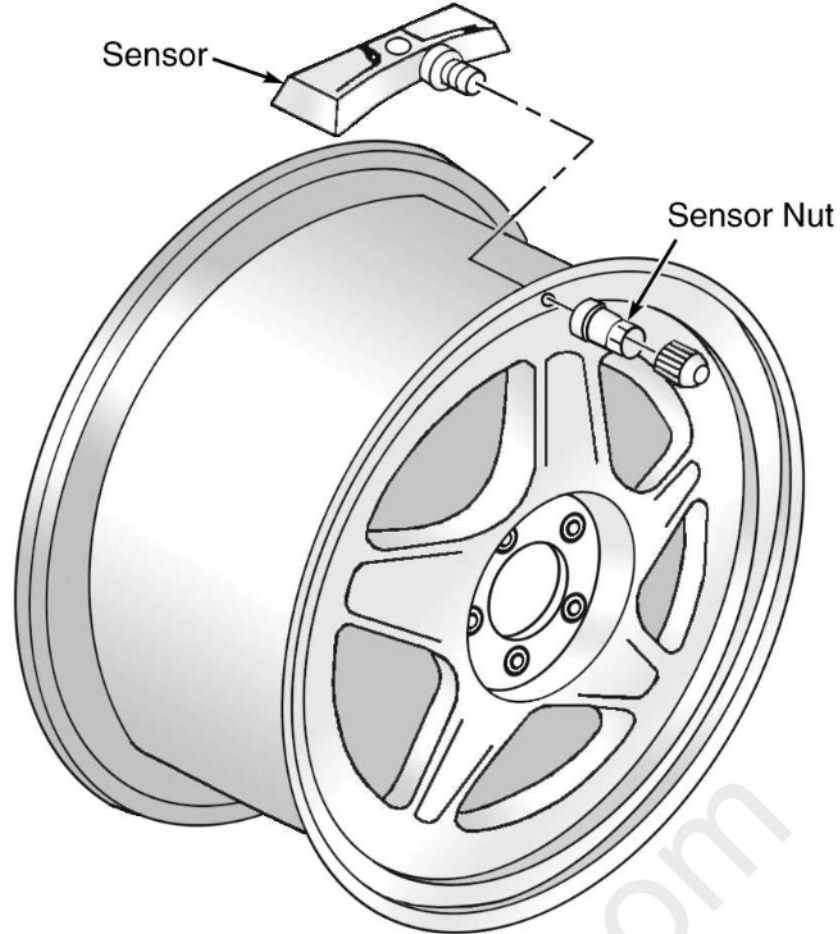
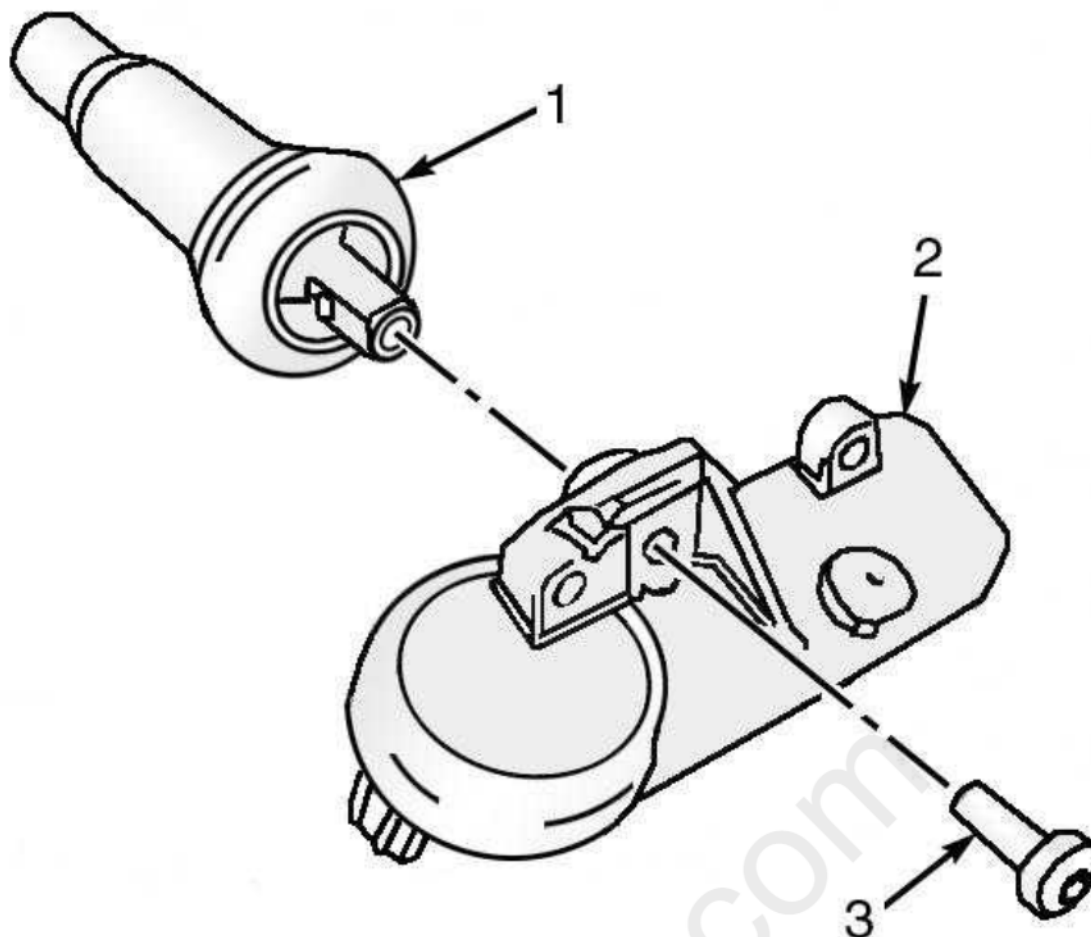

Fig. 2: Exploded View Of Clamp-In Style Tire Pressure Sensor
Fig. 3: Exploded View Of Snap-In Style Tire Pressure Sensor
There are currently two different kinds of Tire Pressure Monitor sensors in use on this vehicle. Identification of which sensor is in use can easily be made after the tire has been removed from the wheel by referring to Fig. 2 and Fig. 3.
3. If the TPM sensor is the Clamp-in style (see Fig. 2), follow Clamp-In style Removal as follows. If it is a Snap-in style (see Fig. 3), follow the Snap-in Style Removal below.
1. Remove tire pressure sensor nut. See Fig. 2.
1. Remove the TORX screw (3) from the tire pressure sensor (2) and pull it straight off the tire pressure valve stem (1) (see Fig. 3).
1. Assemble the tire pressure sensor (2) to the valve stem and install the new TORX screw (3). See **Fig. 3**.